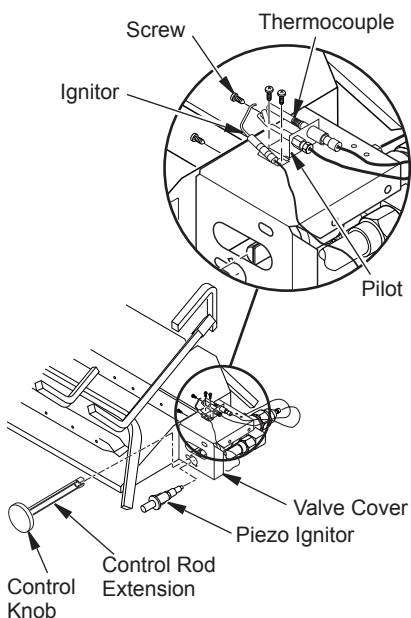

Figure 11 - Installing Cover, Control Knob, and Piezo Ignitor
10. Install thermocouple, pilot, and ignitor onto valve cover as shown in Figure 11. Use provided screws.